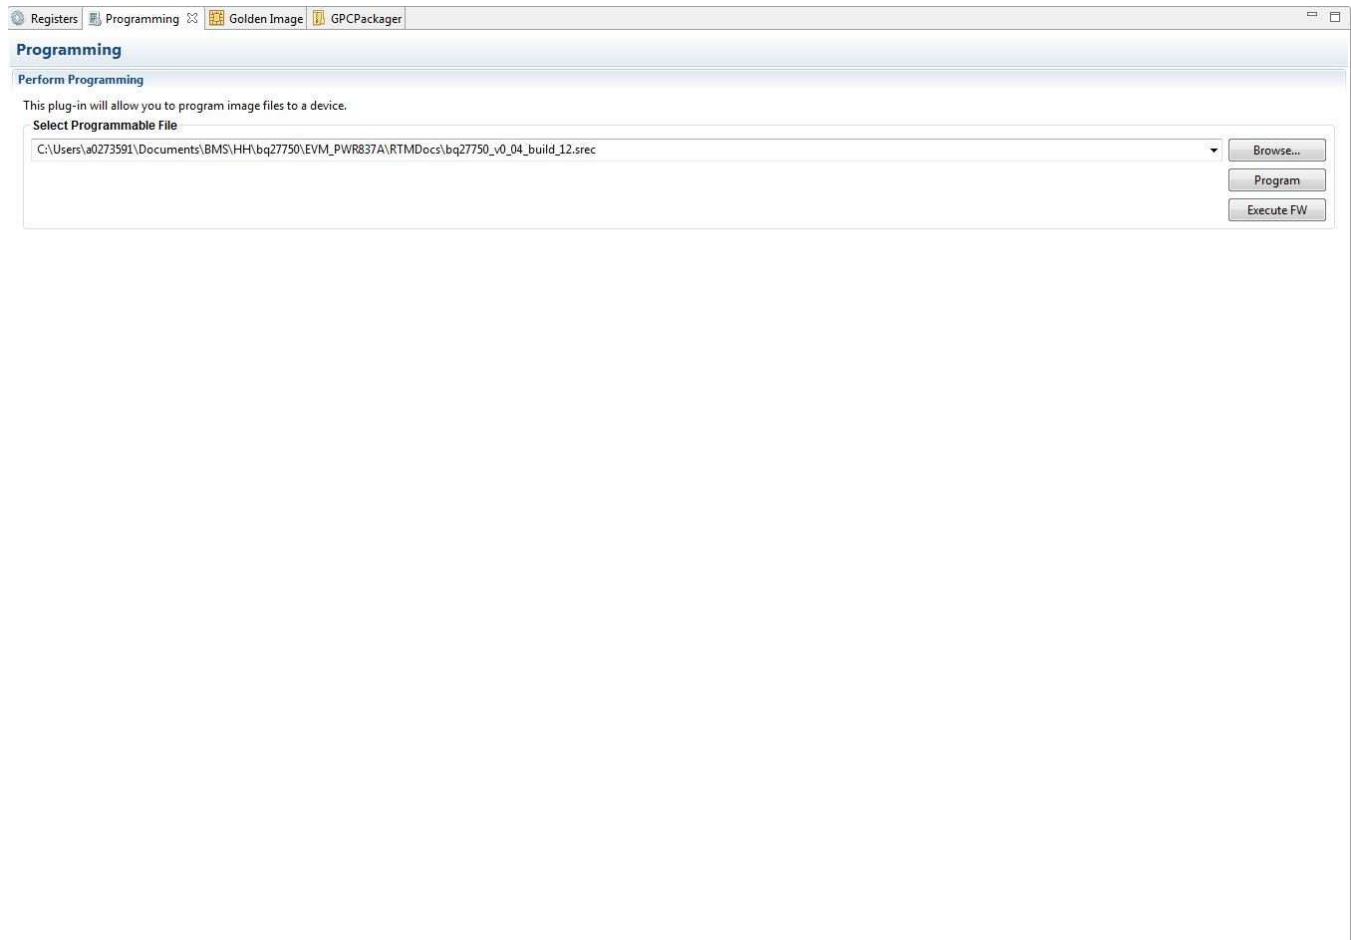

Figure 8. Programming Screen
- Click the Execute FW to return the device to NORMAL mode after programming has completed, see Figure 8.